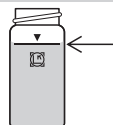

Fig.1
3. Fill the vial up to the white line (25 mL) with sample. (Fig.1)